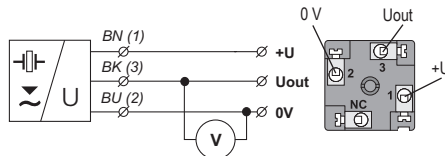
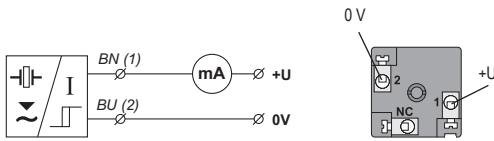
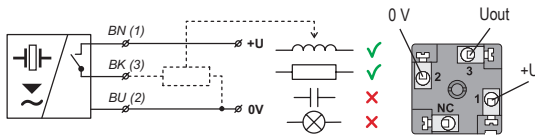

Fig. 16: Connection diagram of the ULM level meter (variant -U) and inside view of the connector
Fig. 17: Connection diagram of the ULS sensor with S type output (two-state current switch 4 mA / 20 mA)
Fig. 18: Connection diagram of the ULS sensor with P type output (PNP) with an open collector
4. Connect the cable wires to the screw terminals as shown in Fig. 15 (current output 4-20 mA), Fig. 16 (voltage output 0-10 V), Fig. 17 (S type output) or Fig. 18 (P) type output. Tighten the terminals firmly.